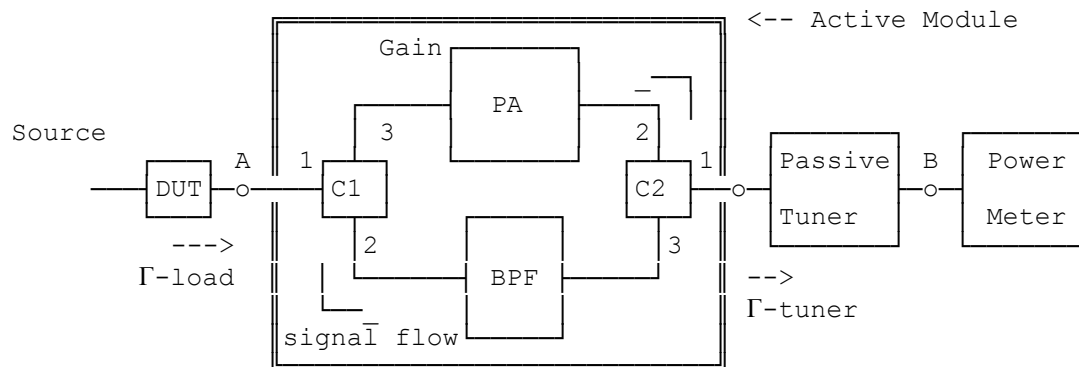

Figure 1: Block diagram of Active Module
Active Modules can be build using a power amplifier (PA), two circulators (C1,C2) and a band pass filter (BPF) in a closed loop. They allow to compensate the losses of test fixtures and the return loss of passive tuners for very high reflection factor load pull testing. A reflection factor up to 1 can be generated at DUT reference plane (figure 1).
The Active Module AM and the passive tuner (model CCMT-1808 in most cases) forms an integrated unit from port A to port B (figure 1) and must be calibrated as such. The CCMT calibration software does not distinguish between a "tuner-alone" or a combination of "tuner-active module".